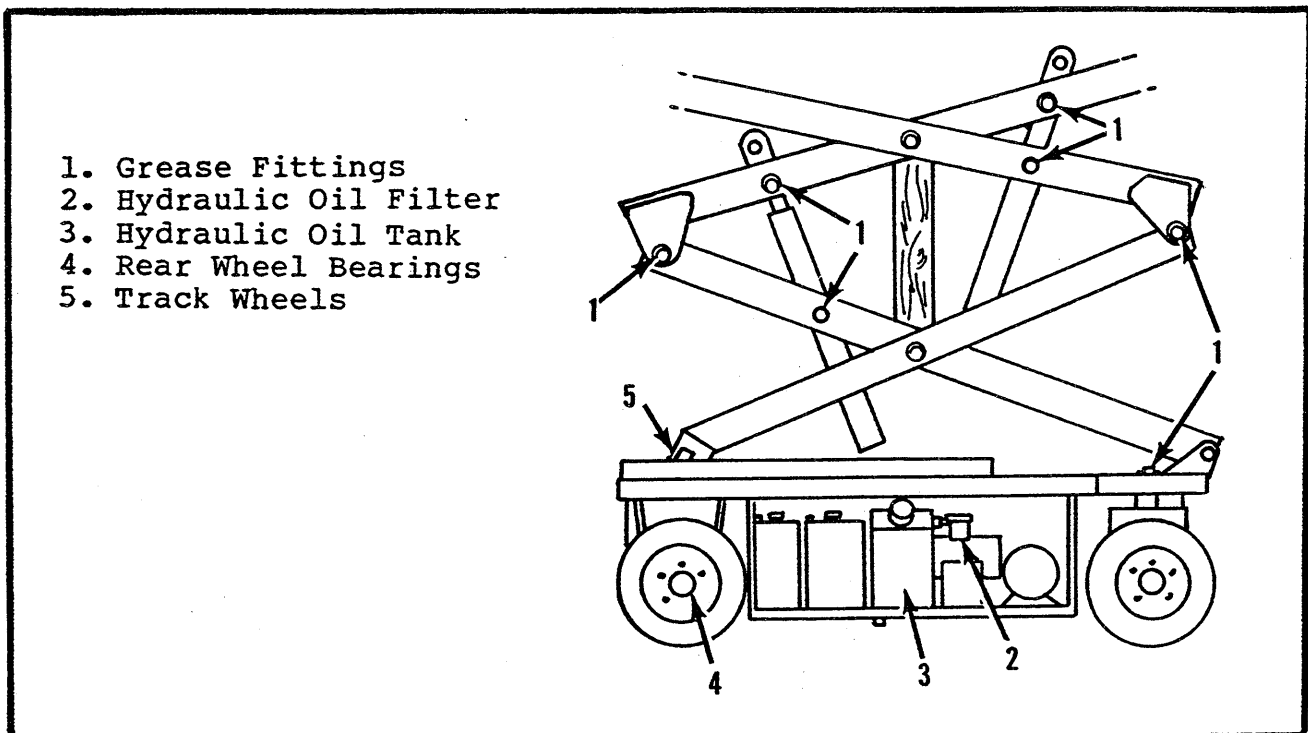

Figure 5-5. Lubrication Points
(1) The specific gravity of the electrolyte in the battery cells should be equalized monthly. To do this, charge batteries as outlined in Battery Charging. After this initial charge, check the electrolyte level in all cells and add water as necessary. Then, turn the charger on for additional eight hours. During this time, the charging current will be low (four amps) as cells are equalizing.
(2) After equalization, the specific gravity of all cells should be checked with a hydrometer. The temperature corrected specific gravity in this state should be 1.260. If any corrected readings are below 1.230, the batteries containing such cells should be replaced. At any rate, the specific gravity in all cells after equalization should not vary more than .010. If a wide variation exists, this is an indication for need of battery replacement.
(3) Do not check the specific gravity in a cell to which water has just been added. If there is not enough electrolyte in a fully charged cell to obtain a sample for the hydrometer, add water and continue charging for one to two hours to adequately mix the water and electrolyte.
**5-8. LUBRICATION.** Refer to Figure 5-5 for location of items that require lubrication service.